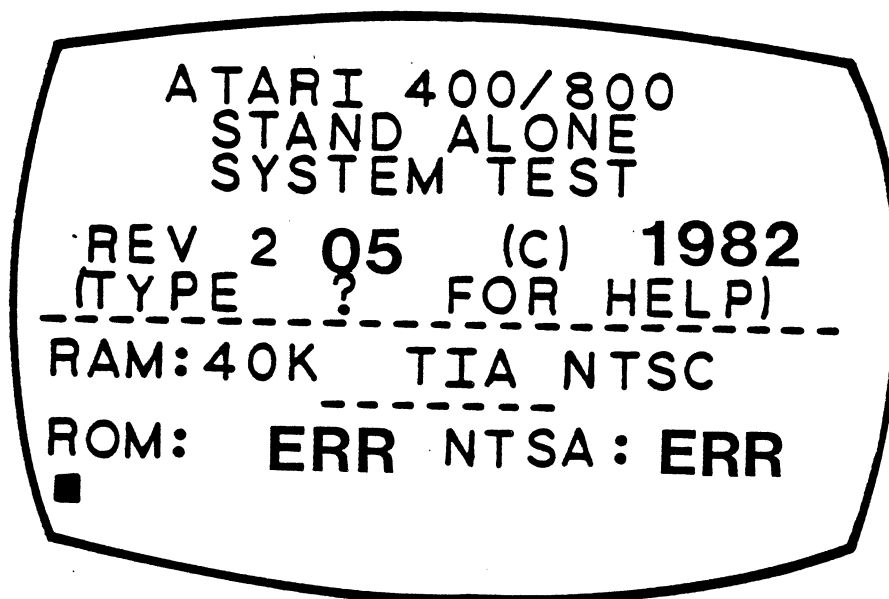

Figure 3-1. SALT Header
4. After a few seconds the SALT header displays (See Figure 3-1).